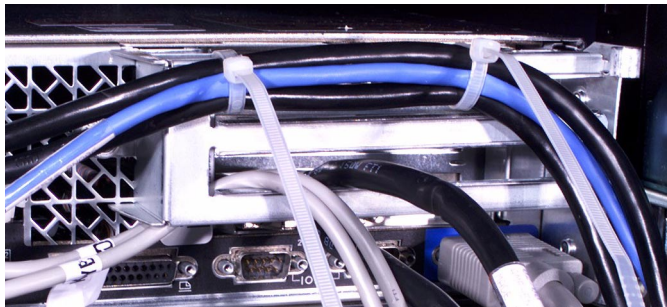

Figure 6. Securing the Power and CAT 5 Cables to the Strain Relief Bracket
6. Using cable ties, secure the power cables and the CAT 5 cable to the top bar of the strain relief bracket near the left corner and approximately 2 inches from the right corner of the bracket (see Figure 6).